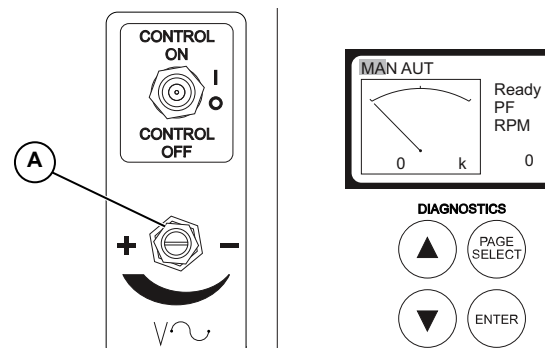

Figure 2-7. Voltage Adjustment Rheostat
See **Figure 2-7**. Generator output voltage can be adjusted after the generator is running by using fine voltage adjustment screw (A). This screw increases (+) or decreases (-) generator output voltage as displayed on the power display screen. If voltage is increased or decreased too fast or too slow, the unit will automatically shut down. This adjustment must be made within the 45 second delay and countdown to zero period.